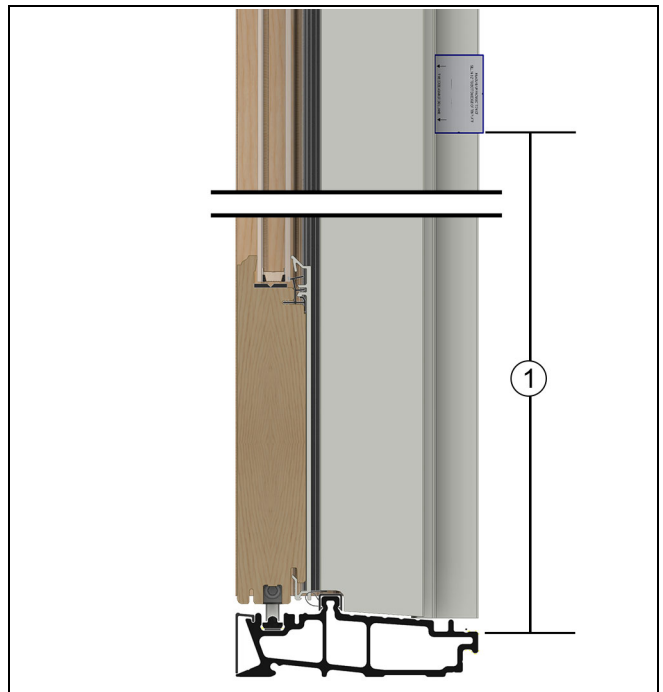

Figure 6
4. Slide the screen out of the way. Place the bottom of the template 34 3/16" from the top of the sill. Mark the screw locations on the jamb with an awl. See Figure 6.